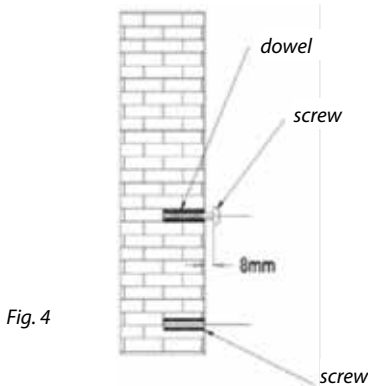

Fig. 4
5. Put the supplied screws in the top holes. Allow an approximate 8 mm clearance between the screw head and the wall (Fig. 4).